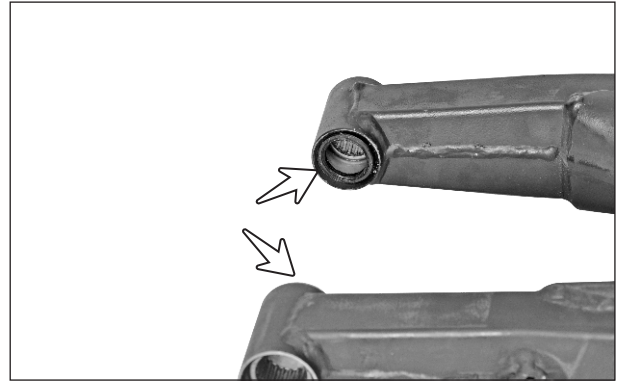

Fig. 6.145
- Remove the dust seal (2 nos.) from swing arm assembly. (Fig. 6.145)